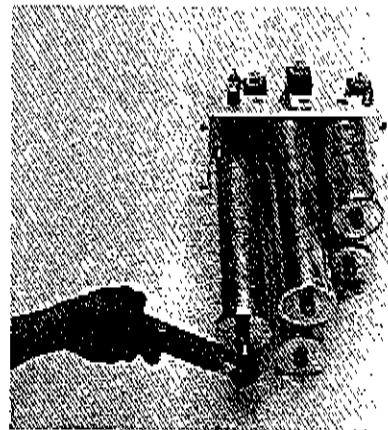

Fig 10
- Change of oil filter is done by unscrewing the rod shaped bolts (fig 10) and exchanging the drying medium and gaskets.